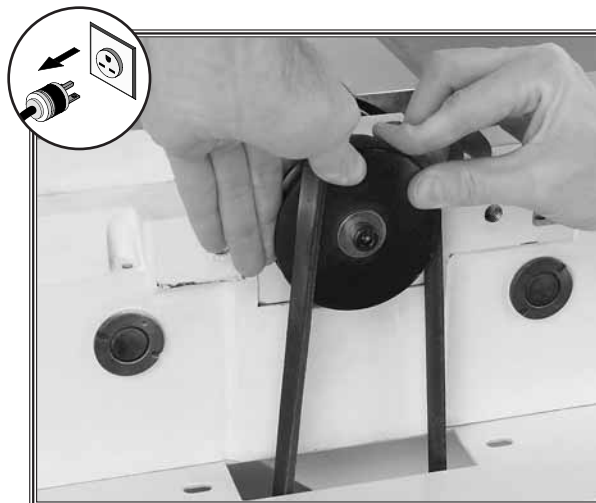

Figure 61. Rolling the V-belt onto the cutterhead pulley.
4. Roll off the old V-belt and roll on the new V-belt, as shown in **Figure 61**.